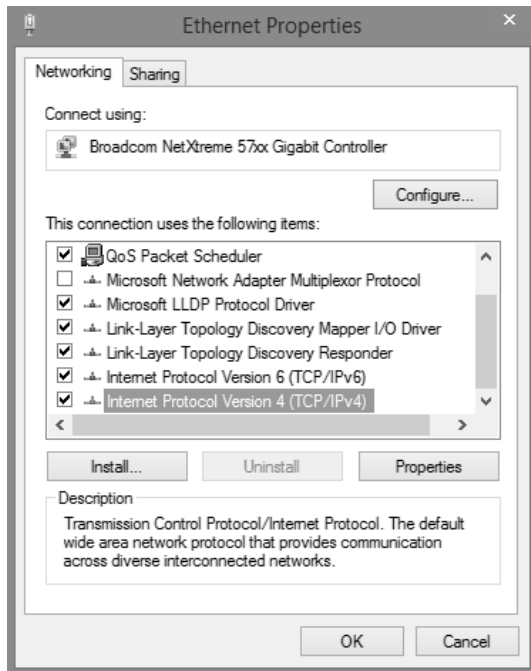

Fig. 3-5, Windows 8® Ethernet Properties Screen
4. In the dialog box (Fig. 3-5), select **Internet Protocol Version 4 (TCP/IPv4)** and then click the **Properties** button.